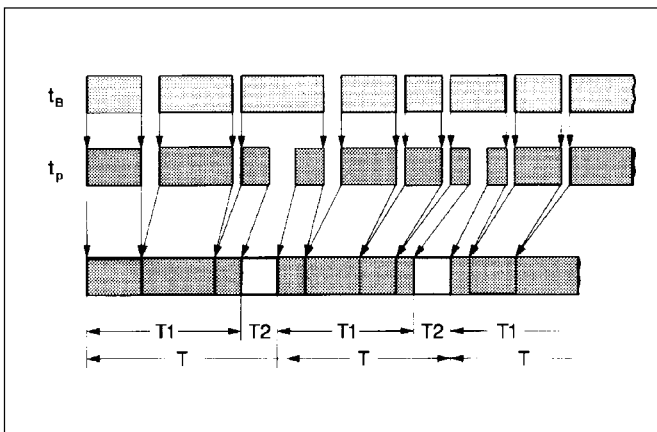

Fig.2 - Time sequence diagram
- A lubrication cycle consists of one pause time and one operating time. Once the pause time has elapsed, the operating time starts to run. This lubrication cycle is repeated permanently after the machine or vehicle has been put into operation. (Fig. 2)